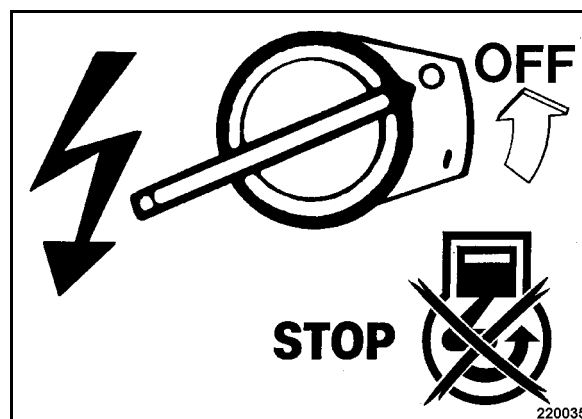

Fig. 29
- Turn the ignition switch to position OFF (Fig. 29), the engine will stop.